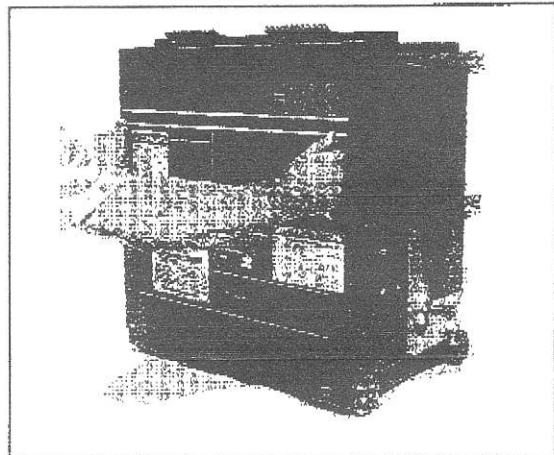

Fig. 26 Gripping Circuit Breaker Handles
- 2) Hold both grip handles (Fig. 26) and push the circuit breaker into the cell.